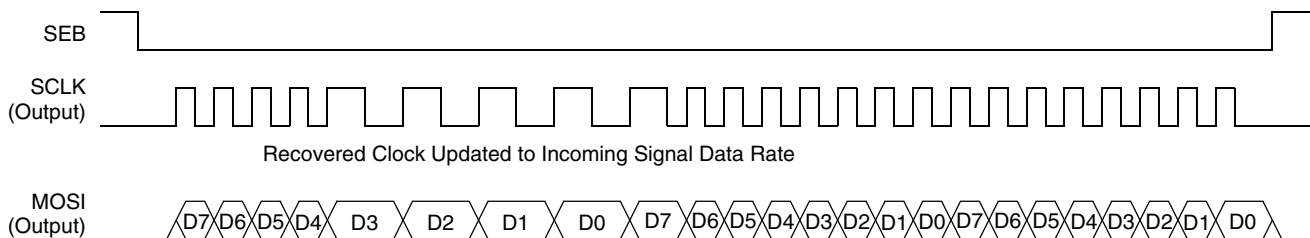

Figure 15. Typical Transfer in Receive Mode with Data Manager
1. DME = 1: The data manager is enabled. The SPI is master. The MC33696 sends the recovered clock on SCLK and the received data on the MOSI line. Data are valid on falling edges of SCLK. If an entire number of bytes is received, the data manager may add an extra byte. The content of this extra byte is random. If the data received do not fill an entire number of bytes, the data manager will fill the last byte randomly. Figure 15 shows a typical transfer.